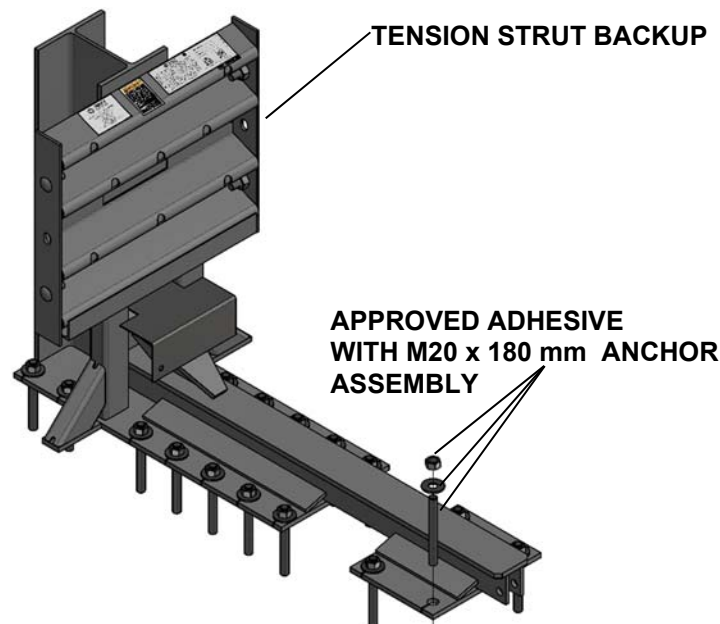

Figure 17
2) Anchor the Tension Strut Backup (Figure 17)